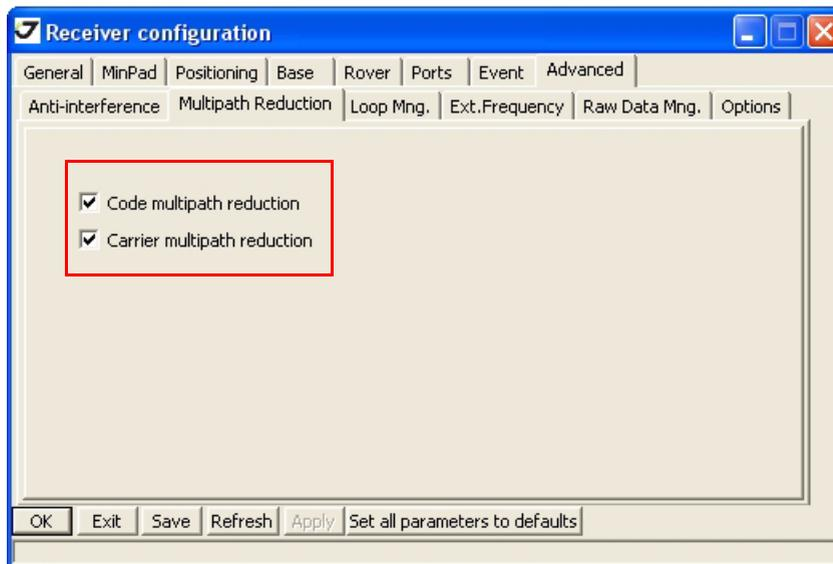

Figure 3-19. Configure Multipath Parameters
10. Click the *Advanced* tab and then the *Multipath* tab. Set the following parameters and click *Apply* (Figure 3-19 on page 60).